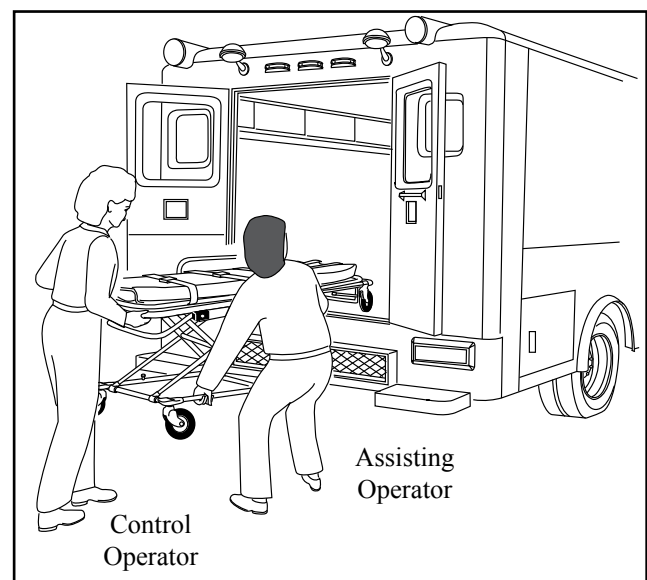

Figure 24 - Loading the Cot
4. **Assisting Operator:** Grasp the undercarriage grip (Figure 24). When the Control Operator communicates that he/she is ready, lift the undercarriage all the way up and hold it in the folded position.